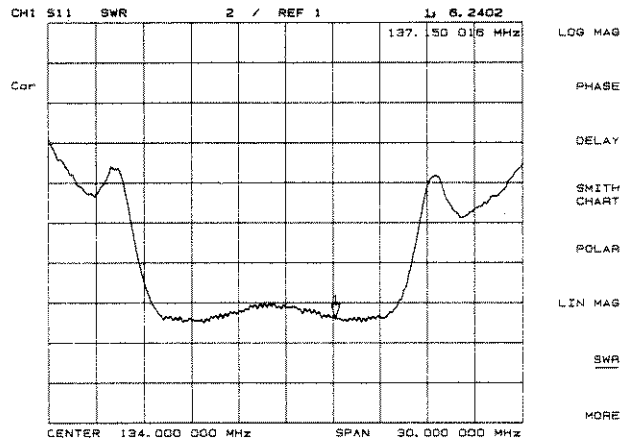

Figure 4-16. Typical SWR Display
**[SWR]** (SWR) reformats a reflection measurement into its equivalent SWR (standing wave ratio) value (Figure 4-16). SWR is equivalent to  $(1+\rho)/(1-\rho)$ , where  $\rho$  is the reflection coefficient. Note that the results are valid only for reflection measurements. If the SWR format is used for measurements of S21 or S12 the results are not valid.
**[REAL]** (REAL) displays only the real (resistive) portion of the measured data on a Cartesian format (Figure 4-16). This is similar to the linear magnitude format, but can show both positive and negative values. It is primarily used for analyzing responses in the time domain, and also to display an auxiliary input voltage signal for service purposes.